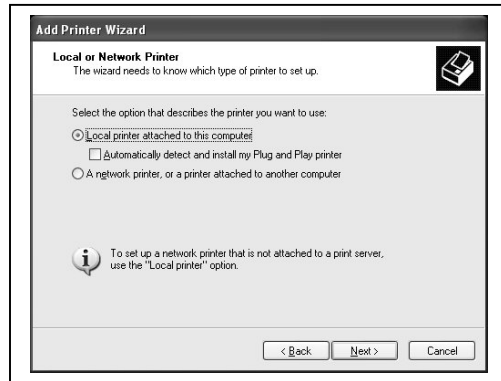
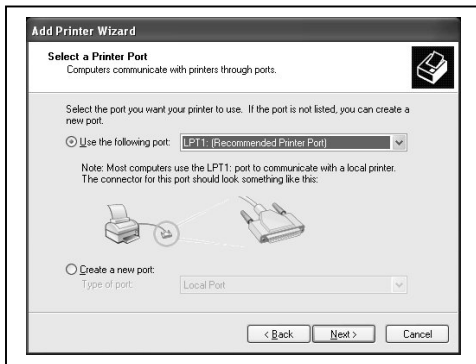

fig 2
fig 3
6. Install the firewire adapter card **(fig. 2)**.
**(fig. 2)**
- d. Locate an Empty slot, Mount the Software Identifier card in slot as illustrated **(fig. 3)**.
- g. Be sure PIN 1 (red wire) if facing AWAY from the motherboard, and next to the power connector on software identifier card **(fig. 3)**.
**(fig. 3)**
4. You MUST accept default folder and click *Next* (**fig. 2**).
5. Confirm Installation and click *Next* (**fig. 3**).
2. Double click the VFPODBC file. **(fig.2)**
4. Navigate to “Autorun” registry following the path “My Computer\HKEY\_LOCAL\_MACHINE\SYSTEM\CurrentControlSet\Services\Cdrom” (**fig. 2**)
(fig. 2)
3. Click *Next* button to install complete version (**fig. 2**).
4. Click *Install* to start installation (**fig. 3**)
(fig. 3)
4. In the “Local or Network Printer” window, uncheck the “Automatically detect installed printer” option, leaving the “Local printer attached to computer” option (**fig 2**) and click Next..
5. In the “Select a Printer Port” window, leave the default as LPT1 (**fig 3**) and click Next.
2. Follow the instructions by opening the top CD/DVD drive tray, and Clicking *Yes* (**fig. 2**). The picker arm will hover a disc over the drive tray, observe the discs position and make the adjustments to the drive tower (**fig. 3**).
(fig 2)
2. Follow the instructions by opening the Spectrum 2 printer tray, and Clicking *Yes* (fig. 2). The picker arm will hover a disc over the printer tray, observe the discs position and make the adjustments to the printer (fig. 3).